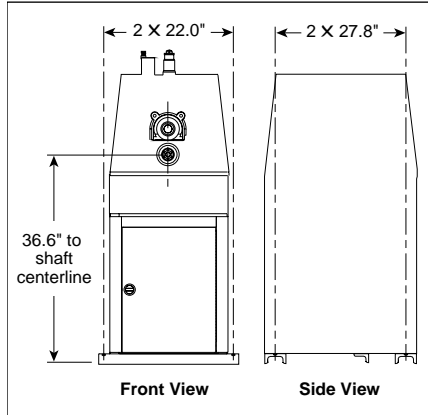

Figure 1
2. The VE268 is designed to be used in a permanent location. It should be located on a level concrete floor or base. Once located, it should be leveled and securely anchored (see Figure 1, page 8), in a level position. A non-level tool can severely affect proper grooving operation. When checking tool levelness, place level directly on tool frame as shown above. The choice of tool location and position should take into account the following factors: